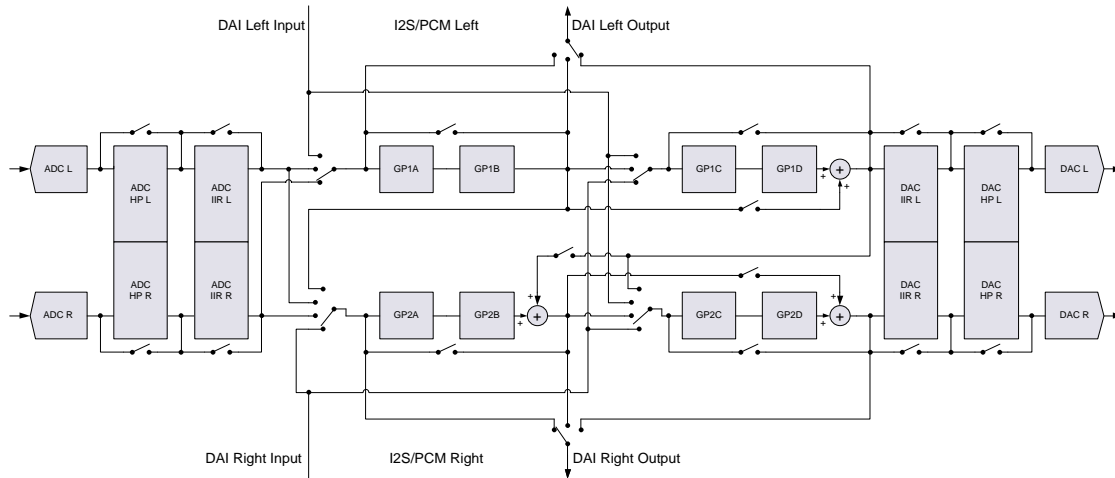

Figure 15: Digital signal processing engine (simplified block diagram)
A digital high pass filter for each DAC channel is implemented (configurable by control DAC_HPF_F0 (address 0x14, Table 56) that can be enabled via control DAC_HPF_EN (address 0x14, Table 56, see blocks 'DAC HP' in Figure 15). After Reset, the high pass filters for both channels are enabled by default.
The digital signal processing engine includes a configurable audio processor that offers flexible routing and extensive audio enhancement and effects. Linear phase FIR filters perform the interpolation and decimation for the required sigma-delta sample rates. Configurable high-pass filtering (optionally enabled) removes any signal DC offset (see blocks 'ADC HP' and 'DAC HP' in Figure 15) and offers 5-band equalisation during recording and sound playback.
Alternatively it can provide dedicated voice band filtering at samples rates ≤ 16 kHz (see blocks 'ADC IIR' and 'DAC IIR' in Figure 15).
An additional general purpose (GP) filter engine offers up to eight second-order biquad filter stages with configurable 16-bit coefficients, and supports flexible digital audio routing and mixing arrangements. Figure 15 shows some possible routings (a subset of the available settings) for filter blocks GP1A to GP2D with the related control registers. Typical use cases with example configurations are explained in the section 8.3.
To allow user-specific sound control, the recording path includes a programmable 5-band equaliser (combined in the ADC IIR blocks in Figure 15). This is enabled using control ADC_EQ_EN (address 0x13, Table 55).